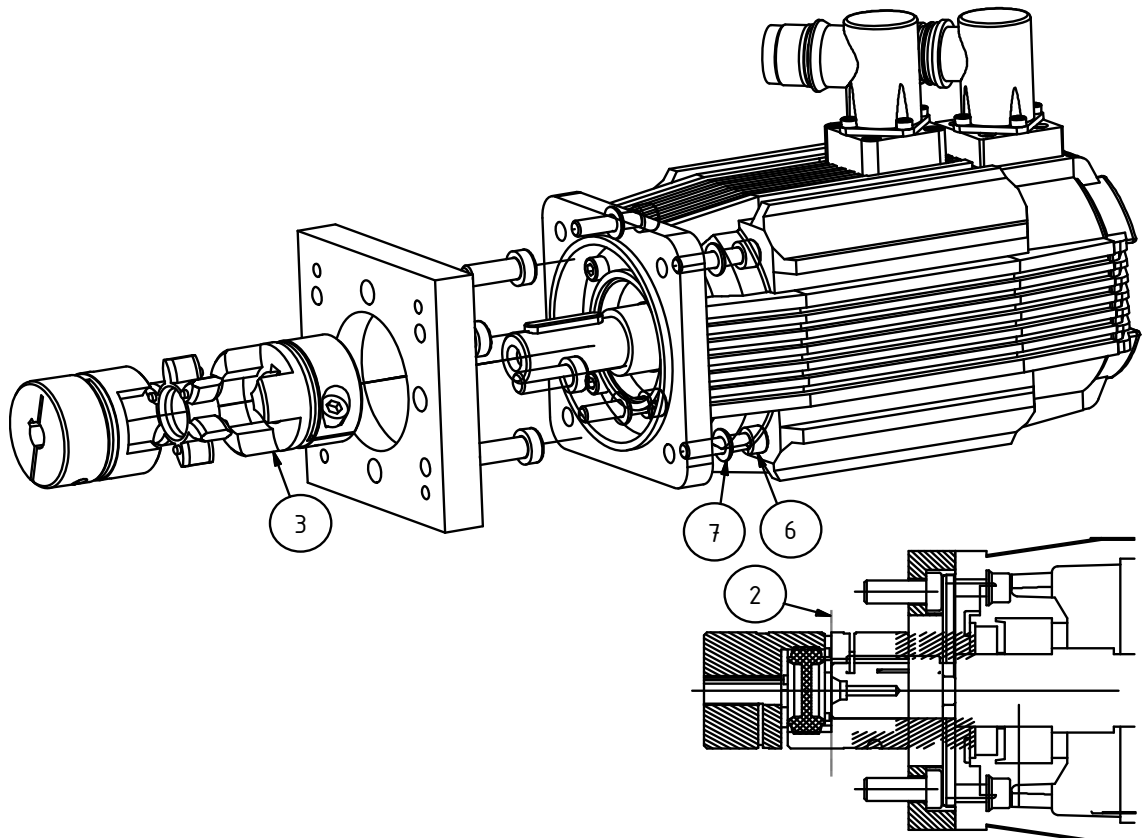

Figure 14: Motor /gear assembly ETH032 ... ETH080 inline
- ◆ Loosen screws (see Figure 14 Pos. 6).
- ◆ ETH032, ETH050, ETH080: Loosen radial clamping screw of the coupling half (see Figure 14 Pos. 3).
- ◆ Equip screw with washer and tighten (please refer to Figure 14 Pos. 6, Pos. 7).